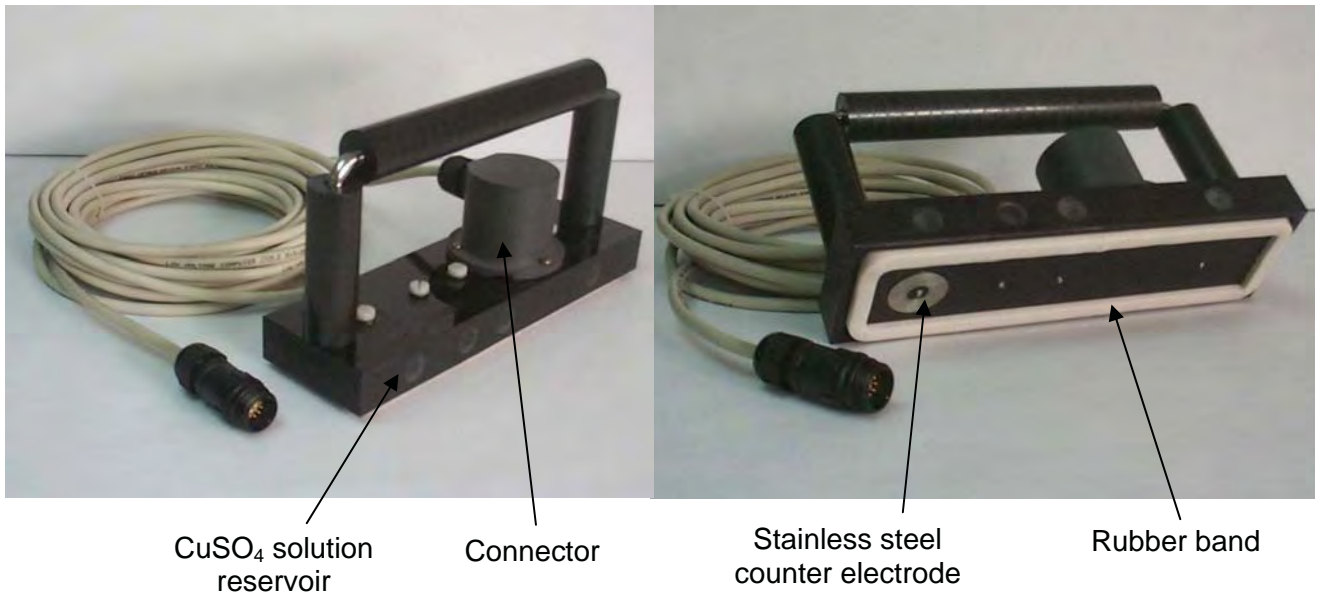

Figure 5.- Sensor C (Cu/CuSO₄)
2.4 **SENSOR C** (See Figure 5)